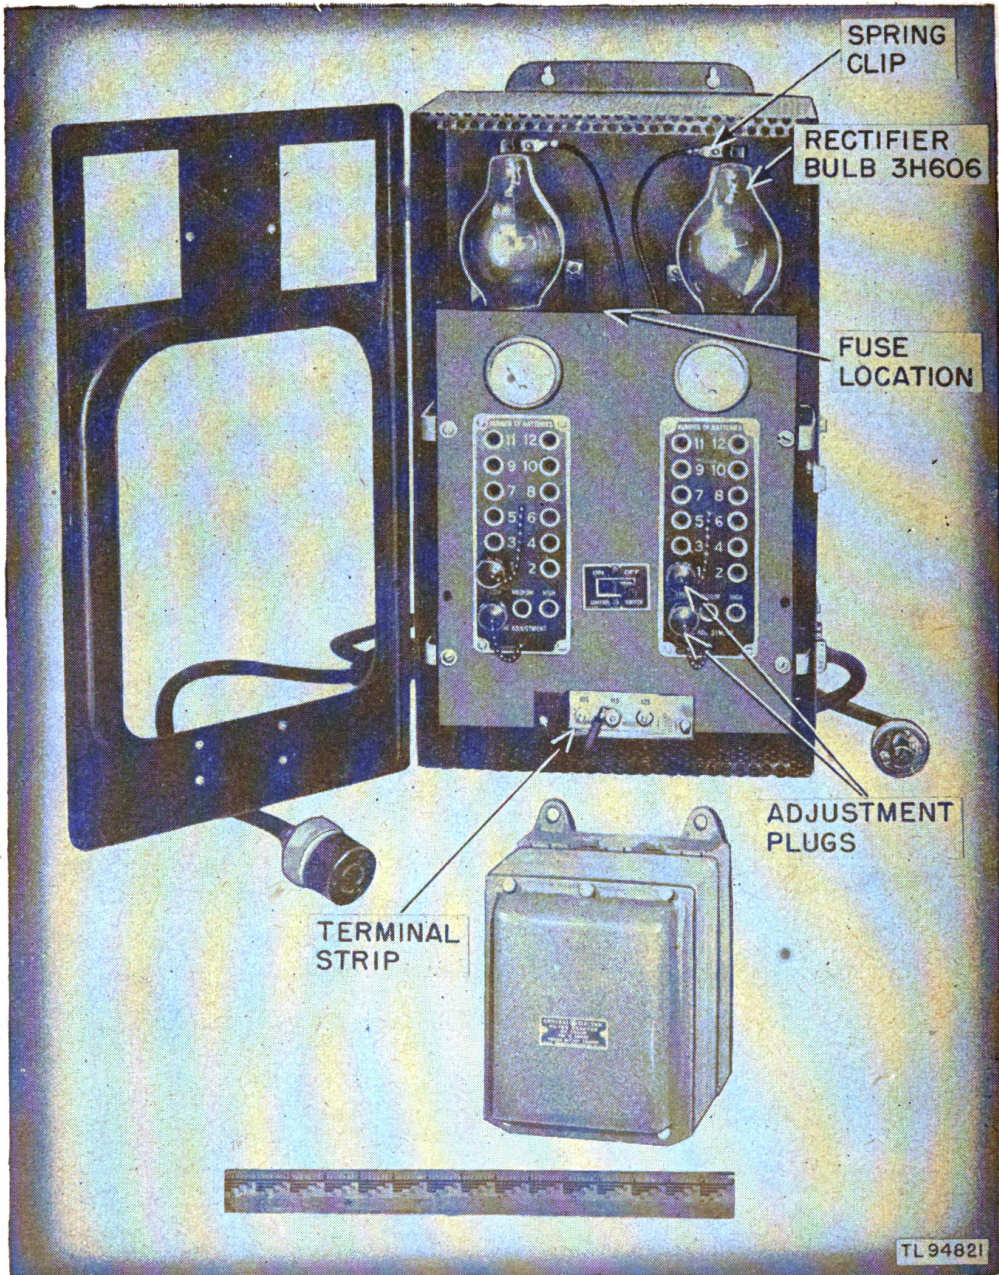

Figure 2. Rectifier RA-36-(1), door open.
c. Rectifier RA-36-(1) (fig. 2) has two plug boards for controlling the charging rate. The front door swings open making accessible the rectifier bulbs, fuses, and input-voltage compensating terminal strips. Two rubber-covered cords (a-c input and d-c output connections) extend from the sides near the bottom of the rectifier case. Two insulated leads extend from the bottom of the case for connection to the external reactor. This unit is wired to operate as a full-wave rectifier only.
(1) On Rectifier RA-36-(1) and rectifier 6RB6B17 the terminal strip is located on the bottom of the panel. (See fig. 2.)
*b.* RECTIFIER RA-36-(1) AND RECTIFIER 6RB6B17. Open the door in front of the rectifier (fig. 2), which is hinged at the left side and fastened on the right side by a spring fastener. Remove two rectifier bulbs from their cartons and tightly screw them into the two bulb sockets accessible. Connect the spring clips attached to leads from the fuse receptacle to the wires extending through the tops of the bulbs. Be sure the right-hand clip is connected to the right-hand bulb, and the left-hand clip to the left-hand bulb. Screw two of the fuses supplied tightly into the fuse receptacle. Check that there are four plugs, each fastened to the panel by a short chain. Finally, close the door.